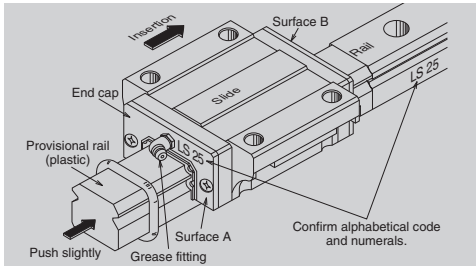

Fig. 9.23 Inserting slide into the rail
- Random-matching slide is assembled on a provisional rail (an inserting tool) when it is delivered (Fig. 9.23).
- ① Wipe off the rust preventive oil from the rail and slide.
- ② Please match an groove mark for datum face of slide and rail to become an assembling state desired.
- ③ Align the provisional rail to the rail in the bottom and side faces. Press the provisional rail lightly against the rail, and move the slide over the rail (Fig. 9.23).